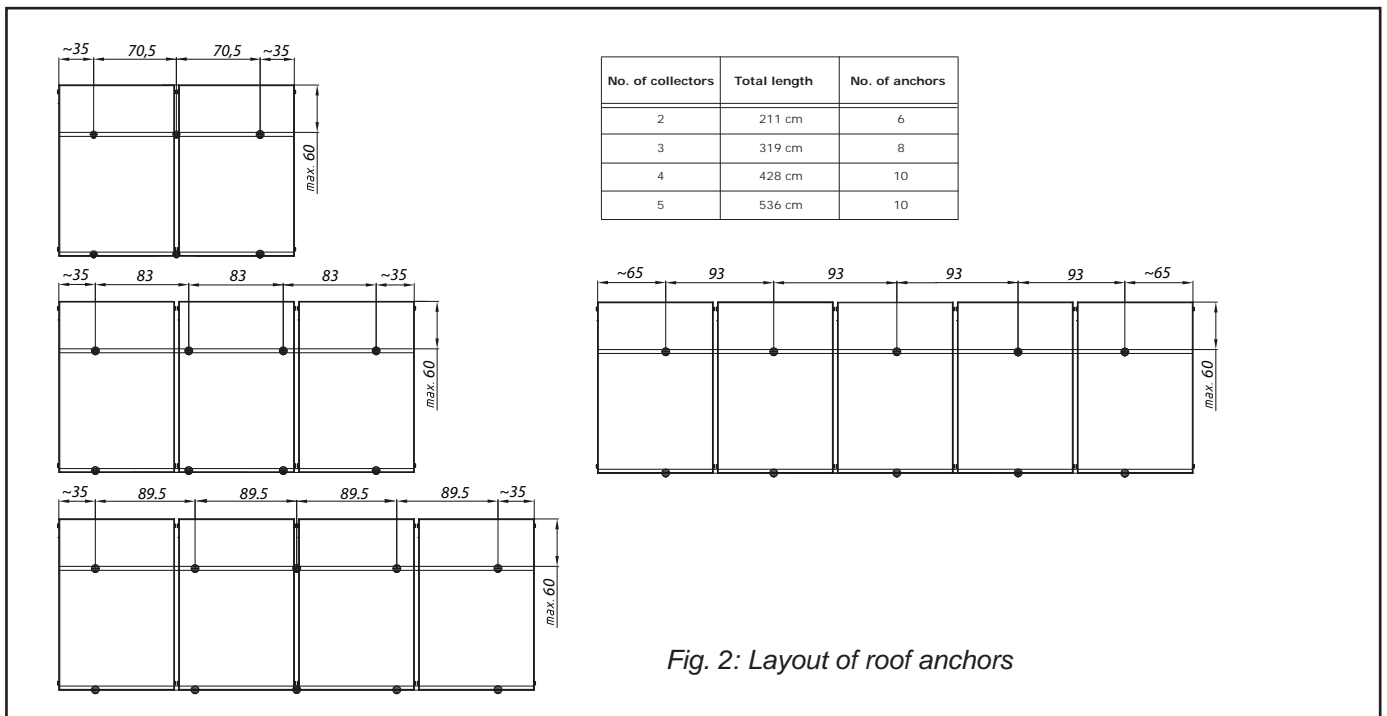

Fig. 2: Layout of roof anchors
- Fix the auxiliary boards to battens so that the distribution of anchors resembles the positions in Fig. 2. At the same time screw the boards so high that the roof
- Hang the roof anchors onto the auxiliary board respecting their distribution shown in Fig. 2.
- Remove roofing in places where anchors shall be fixed (Fig. 5). The distance "a" between anchors is defined in Fig. 2.
- Depending on the number of collectors, measure and calculate the positions for fixing roof anchors (Fig. 2). Such places shall be selected for mounting where anchors can be fixed sufficiently into the roof frame (rafter or similar).